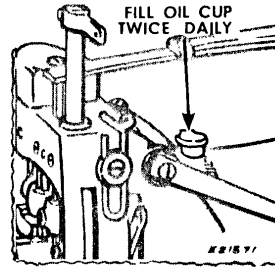

Fig. 9. Oil Cup
2. Fill oil cup illustrated in Fig. 9.